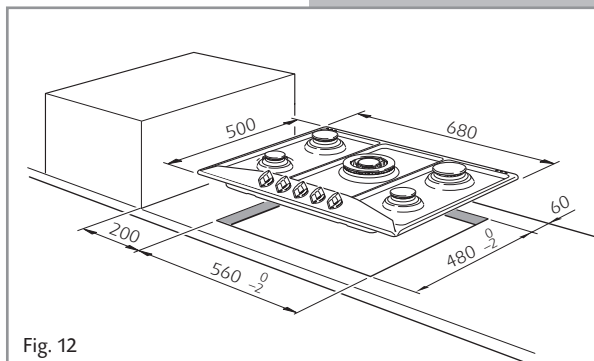

Fig. 12
In order to install the hob into the kitchen fixture, a hole with the dimensions shown in fig. 12 has to be made, bearing in mind the following:
- The hob must be kept no less than 200mm away from any side wall (fig. 12).